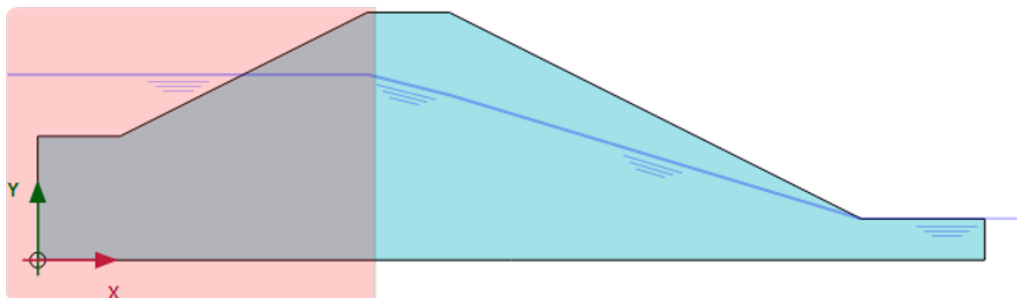

Figure 156: Selected hydraulic boundaries
9. Select the hydraulic boundaries as shown in Figure 156 (on page 181).